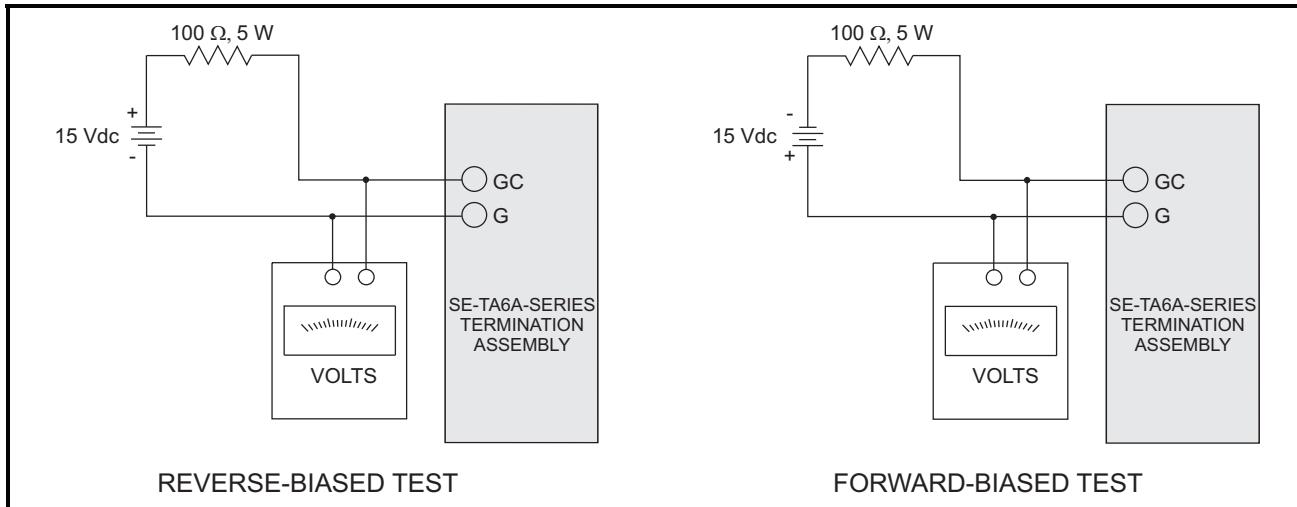

FIGURE 11. Termination-Assembly-Test Circuits.
- Apply 15 Vdc across the series combination of a $100\text{-}\Omega$, 5-W current-limiting resistor and the termination assembly, as shown in Fig. 11. In the reverse biased test, the voltage should be 5.6 V across the termination assembly terminals. In the forward biased test, the voltage across the termination assembly terminals should be between 0.3 and 0.9 V.